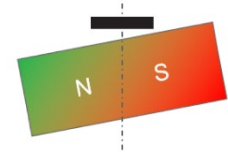

Figure 24. Magnet Tilt Error
- ▶ Magnet tilt error. This is caused by an inclination between the rotating shaft and the sensor, creating an irregular air gap. See Figure 24.